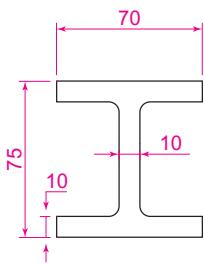

Fig. 12.38 Example Sweep – the outline to be swept
1. Construct the pline outline Fig. 12.38 in the ViewCube/Top view.